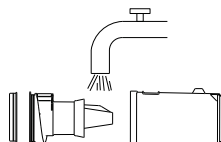

Figure 17
5. Clean the cotton filter and cyclone body and dry it by Air (**Figure 17**).